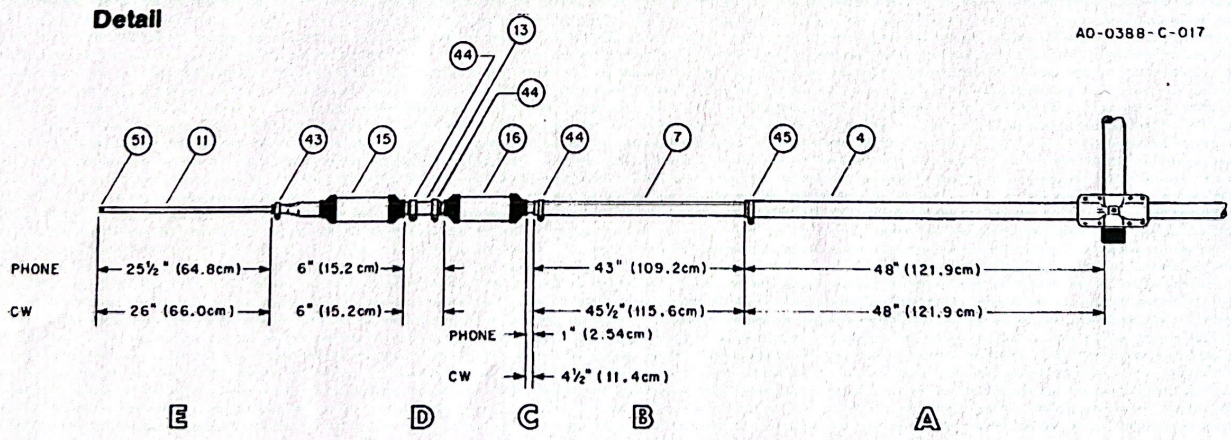

Figure 10 Reflector
Select the R1 section of tubing (1 1/4" x 48", 121.9 cm long, item 4). Slip a 1 1/2" compression clamp onto the R1 section. Refer to Figure 8. Select the R2 section (1 1/8" x 48", 121.7 cm long, item 7). Slip the unswaged (untapered) end of the R2 section into the R1 section and measure dimensions B for your mode of transmission (phone or CW) as shown in Figure 10 then tighten the compression clamp slightly.